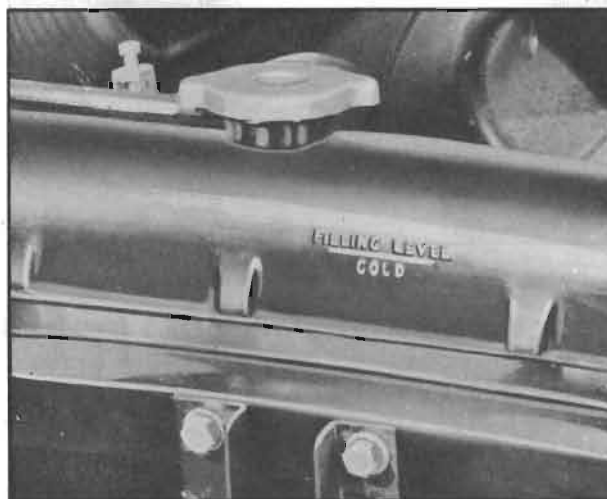

Figure 1-3—Radiator Filling Level—Cold
6. *Dynaflo Transmission.* Check transmission oil level, *with transmission oil warm, transmission in Parking, and engine idling.* Remove gauge rod located under right side of hood (fig. 1-3), wipe dry with clean cloth then reinstall to full depth. Remove rod and note oil level.
10. *Radiator.* Check coolant level when engine is cold and add water to line marked "Filling Level—Cold" stamped on head tank. See figure 1-3. **CAUTION:** *Radiator cap should not be removed when engine is hot because relieving the pressure may cause the cooling system to boil, with resultant loss of water or anti-freeze solution. Filling radiator when hot, or filling above level line may result in loss of water or anti-freeze solution through overflow pipe.*